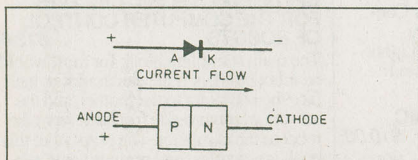
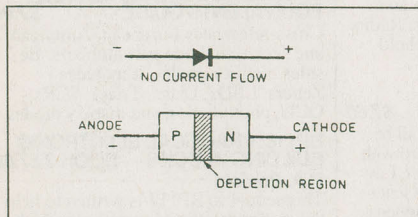

Fig. 1. Forward biased (conducting) diode.
Fig. 2. Reverse biased (non-conducting) diode.
**S**emiconductor diodes are generally a single p-n junction of either silicon (Si) or germanium (Ge) material. In order to obtain conduction, the p-type material (the p-type connection constitutes the anode while the n-type connection constitutes the cathode). The direction of current flow is from anode to cathode when the diode is conducting, as shown in Fig. 1. Very little current (negligible in the case of the most silicon devices) flows in the reverse direction (Fig. 2).